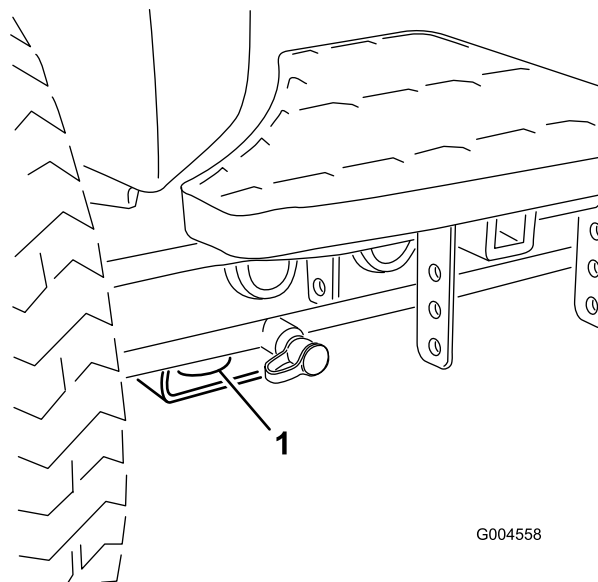

Figure 45
- Front—the hole in the rectangular pad, under the axle tube, inside each front tire (Figure 45).